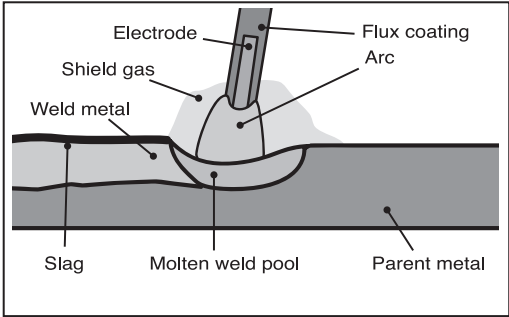

FIG. 5
8.6 ARC WELDING, FILLER ROD (ELECTRODE) SELECTION – FIG. 5